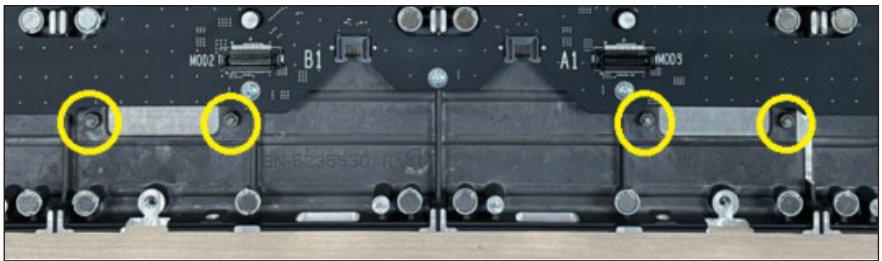

Figure 19: Remove Nuts from Cover
- a. Remove the two nuts (circled in yellow in **Figure 19**) securing the appropriate cover on the inside of the cabinet.